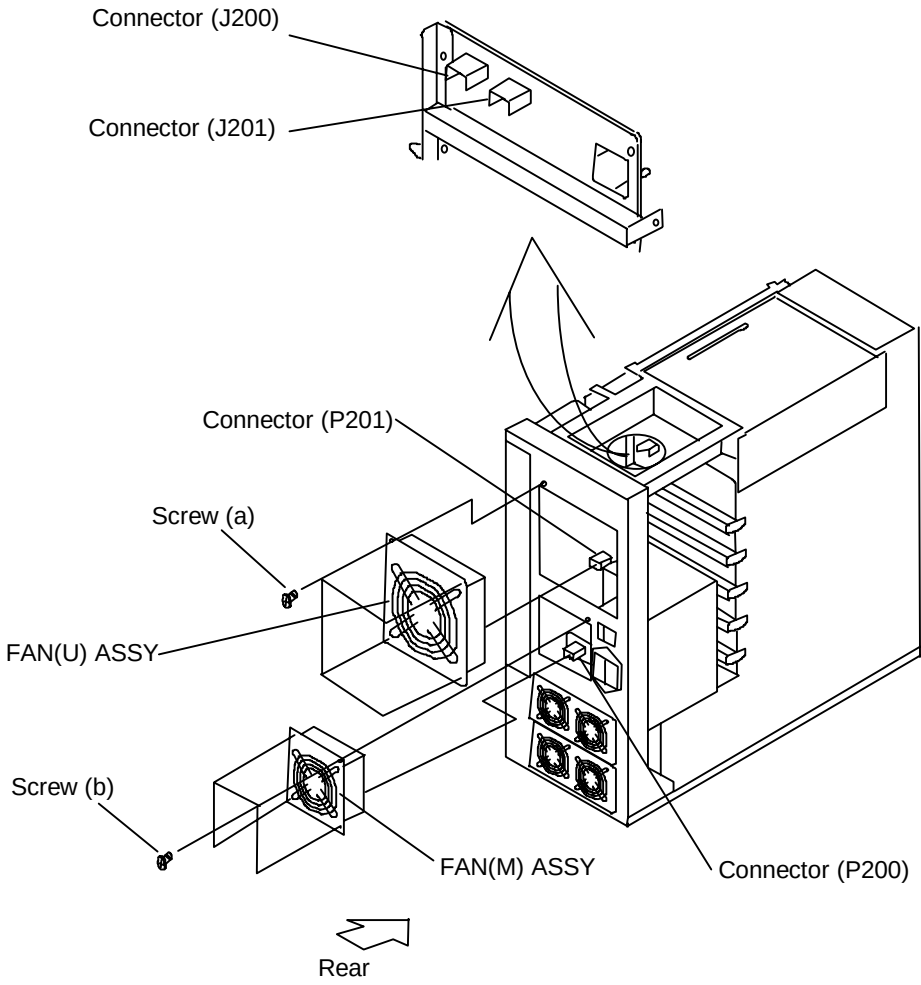

Figure 11.1 Replacing Fan ASSY
11. Replacing Fan ASSY (See Figure 11.1.)